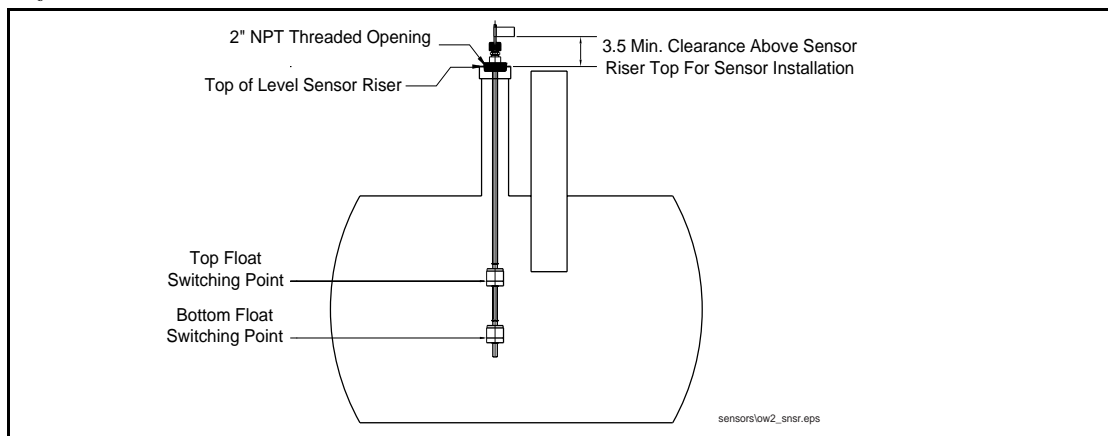

Figure 1. Oil/Water Separator Sensor (installed)
5. The Oil/Water Separator Sensor is installed by lowering it into the tank and by threading it into the 2-inch NPT riser (see Figure 1). Tighten the sensor to prevent leakage.